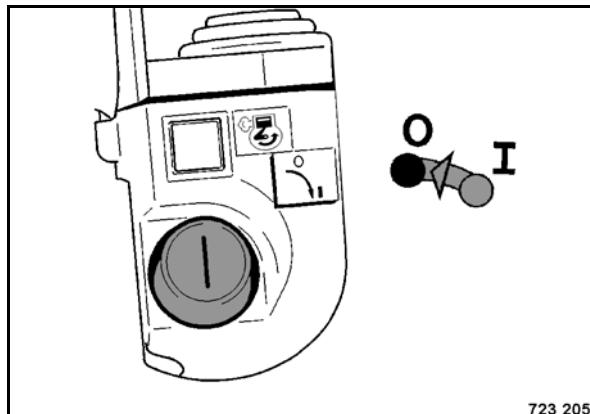

Fig. 83
- Turn the ignition switch to position I (Fig. 83), charge control lamp and oil pressure control lamp come on.